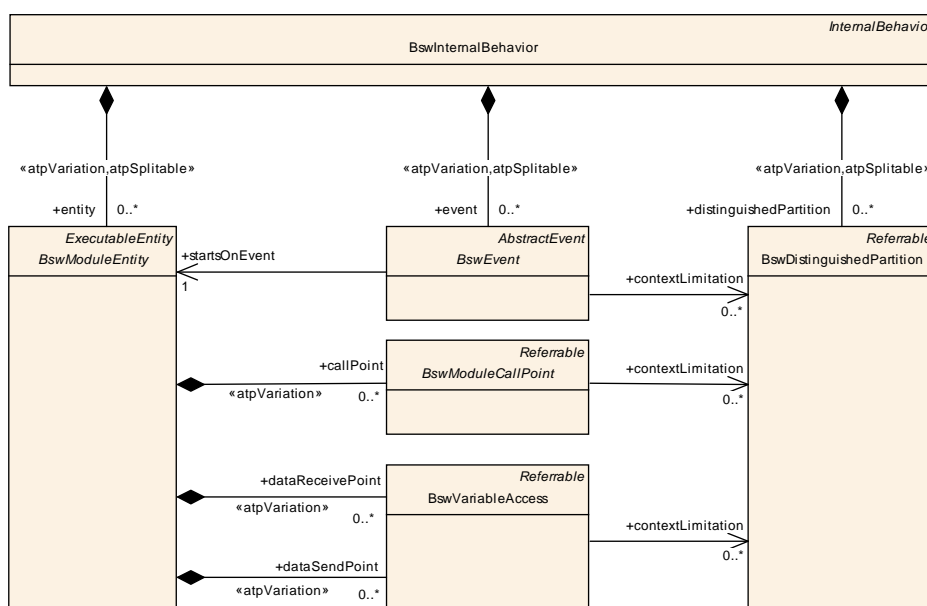

Figure 6.19: Usage of `BswDistinguishedPartition`.
- Each potential partition context in which some of the contained `BswModuleEntity`-s are able to run shall be modeled by an aggregation of an instance of meta-class `BswDistinguishedPartition`, see figure 6.19. Note that this is an abstract notation and the concrete partition must be defined later in the process as part of the configuration of the “virtual” module `EcuC`, see [11].